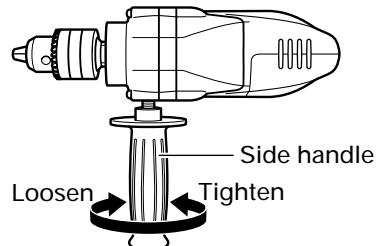

Fig. 6
## 9. Installing the side handle (Optional accessory) (Fig. 6)
**For hook (side-attaching) (Fig. 6)**